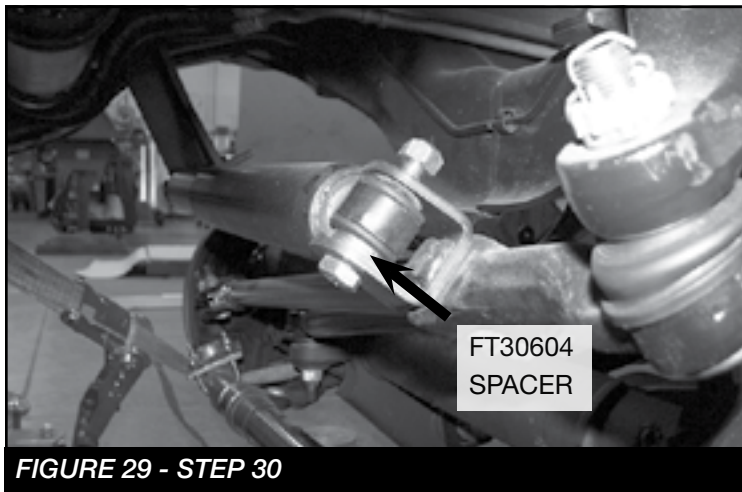

FIGURE 29 - STEP 30
30. Install FT30686 (Stabilizer Clevis) on the factory steering stabilizer using the supplied M12 hardware. **NOTE: Install FT30604 (spacer) like shown in the figure below.** Install the stabilizer using the supplied 1/2" washer and nut to the drag link. Using the factory hardware install the tapered end into the new Fabtech bracket. Torque to 127 ft-lbs. **SEE FIGURE 29**